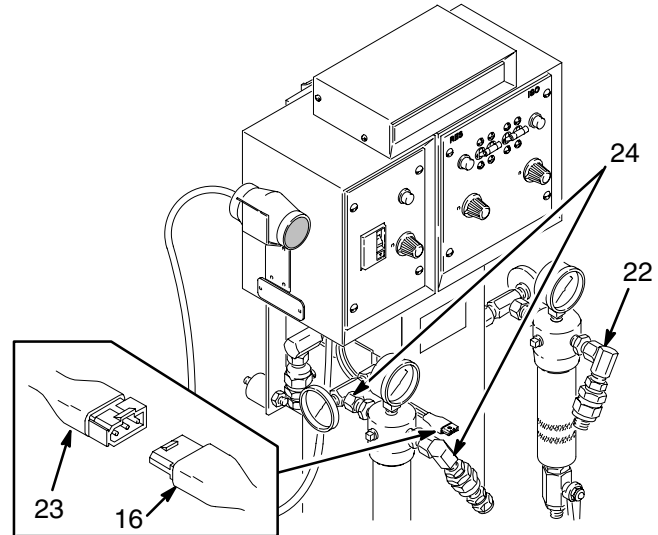

Fig. 3
- Do not install any fluid shutoff device at the fluid outlet of either the heater or filter! See Ref. 24, Fig. 3.
2. Connect the fluid hoses to the corresponding 3/8 npt outlet union of the fluid filters (22). See Fig. 3
3. Connect the heat tape connector (16) to the hose control box cable (23). See Fig. 3.